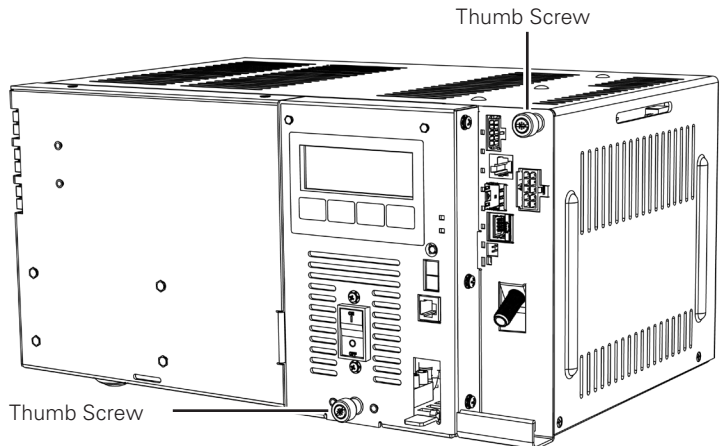

Fig. 2-14, Inverter Module Screw Locations
1. To access the output voltage terminal, remove the inverter module by removing the screw securing the module (see Fig. 2-14, next page).
1. Loosen the thumb screws securing the inverter module and communications module (see Fig. 2-14). Pull out the inverter module.